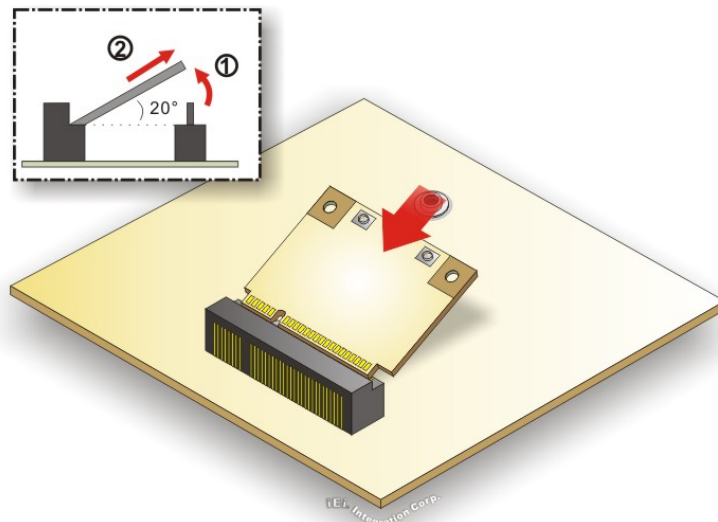

Figure 3-10: Inserting the WLAN Module
Step 6: Line up the notch on the WLAN module with the notch on the slot. Slide the WLAN module into the slot at an angle of about 20° (**Figure 3-10**).